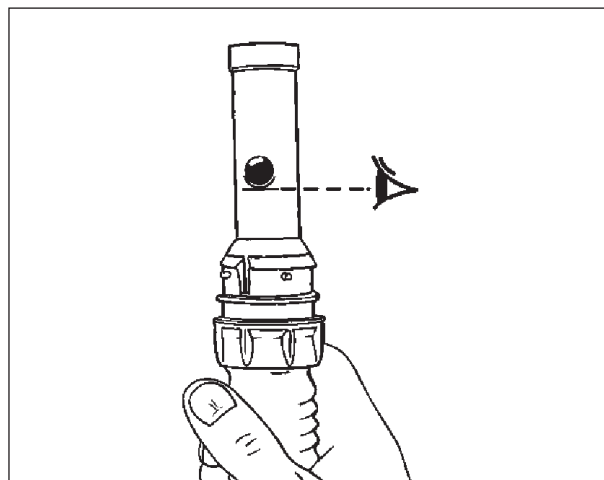

Figure 6:
- 7) Ensure that the bottom of the floating ball rests at, or above, the minimum flow mark (see Figure 6).